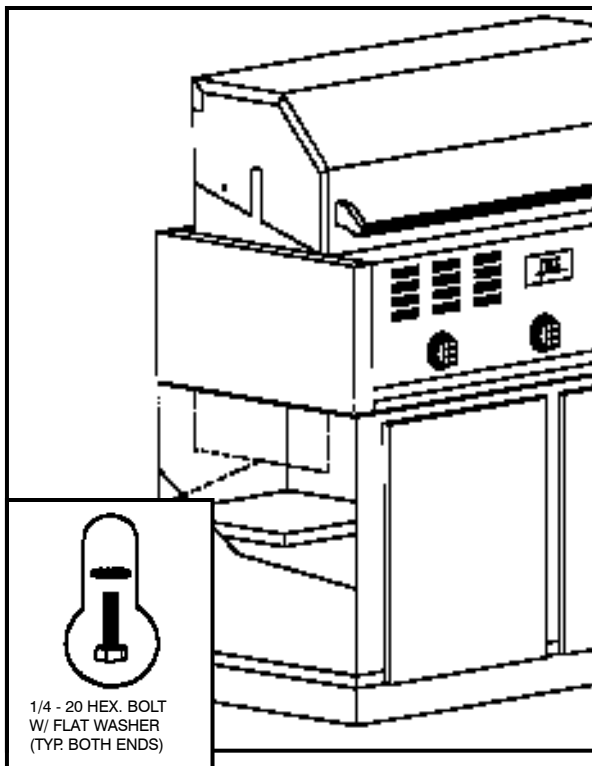

Figure 6. Cabinet Base
3. Fasten the Housing to the Base with the supplied hardware. (Hardware needed: Four (4) each 1/4-20 x 1/2"L hex head bolts and flat washers.) (See Figure 6.)